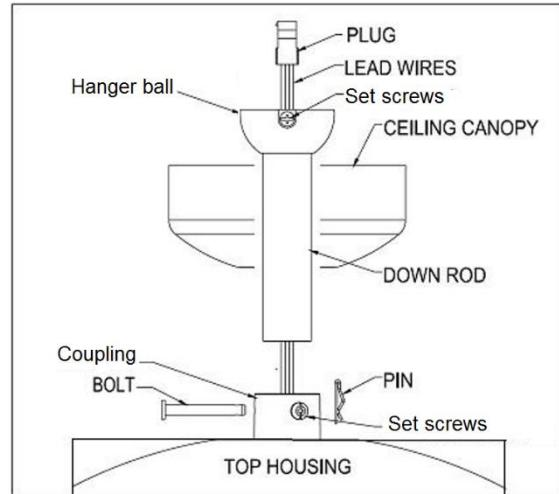

Fig. 4
1. Loosen the hanger ball. (see Fig.4)
Lift the fan assembly onto the mounting bracket. Ensure the registration slot (A) of the hanger ball is positioned on the stopper (B) of the mounting bracket (C) to prevent the fan from rotating when in operation. (Fig.4)